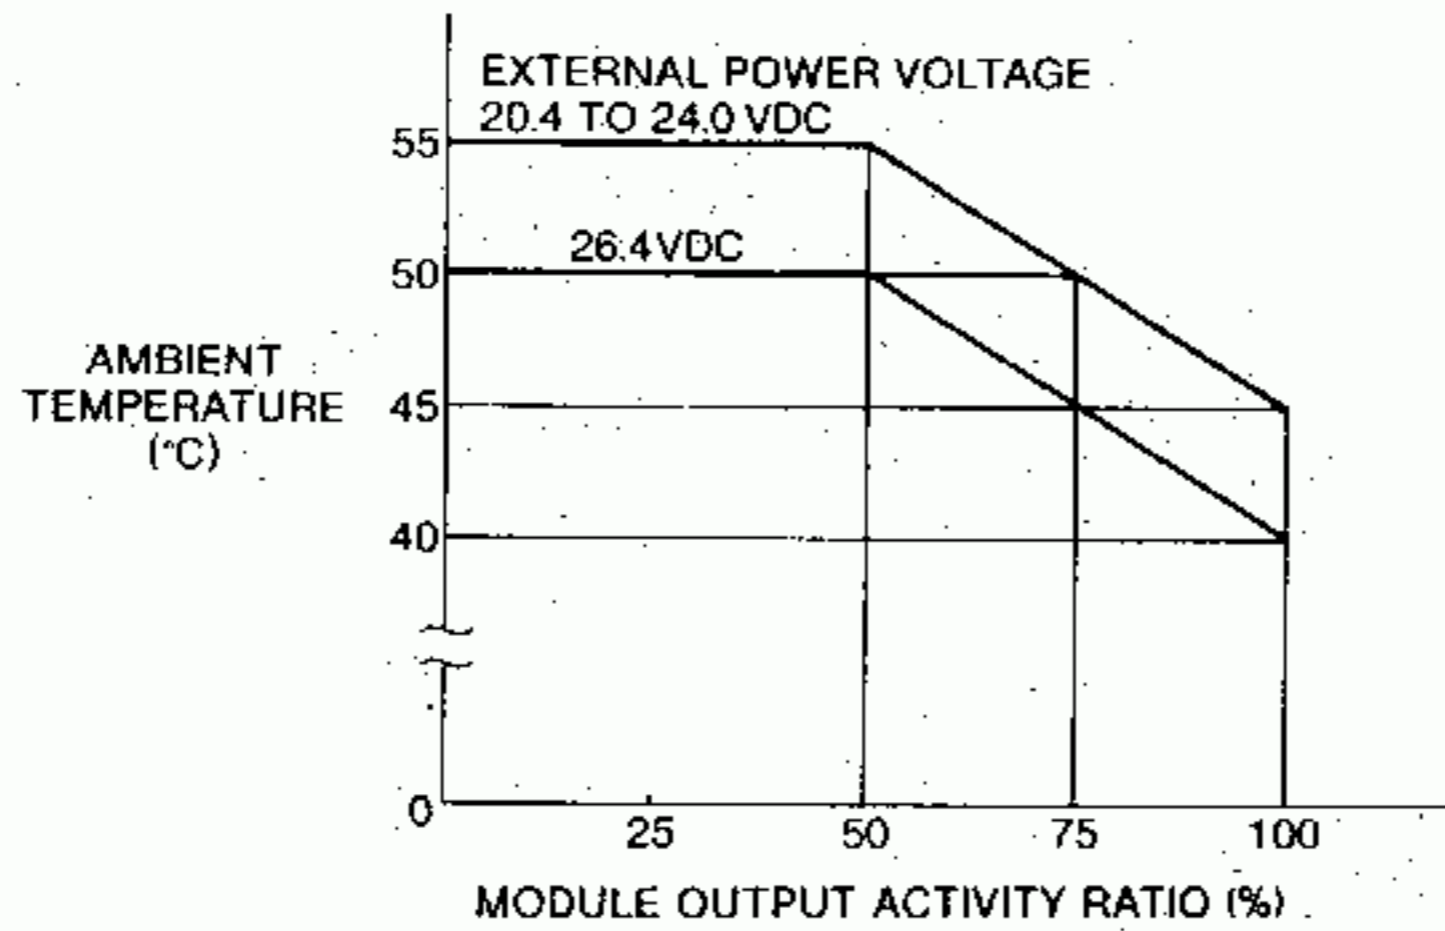

Fig. 5.52 Allowable Ambient Temperature
(9) Note for Using I/O Modules B1060 and B1062 :
- When using 64-output module B1063 and 32-output module B1062, use them within ambient temperature ranges shown in Fig. 5.52. Fig. 5.52 shows allowable ambient temperature according to the external power voltage and module output activity ratio.